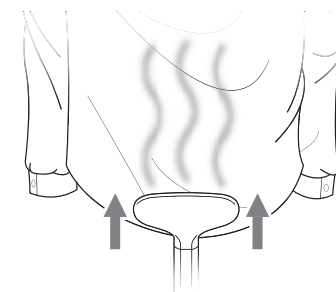

FIGURE 9
3. Direct Steam Nozzle towards bottom of garment. Steam will rise along inside and outside of fabric, removing wrinkles. Slowly slide Steam Nozzle vertically, from bottom to top of garment (FIGURE 9).